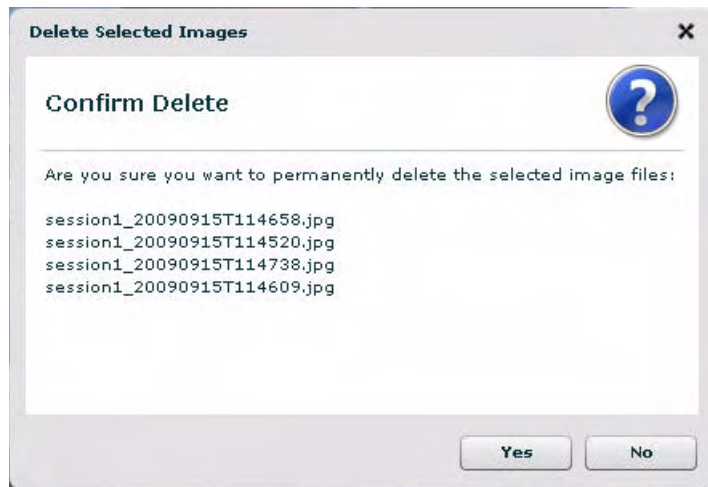

FIG. 132 Delete Selected Images dialog
4. The application prompts you to confirm this action before deleting any files, via the *Delete Selected Images* dialog (FIG. 132):